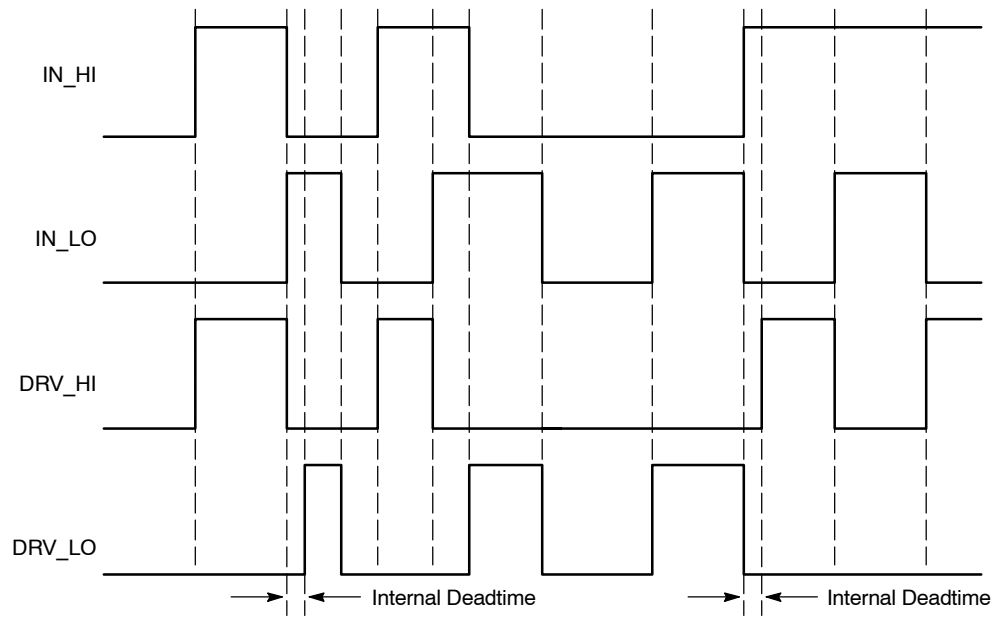

Figure 10. Input/Output Cross Conduction Output Protection Timing Diagram (B Version)
4. Version B integrates a dead time in order to prevent any cross conduction between DRV_HI and DRV_LO . See timing diagram of Figure 10.